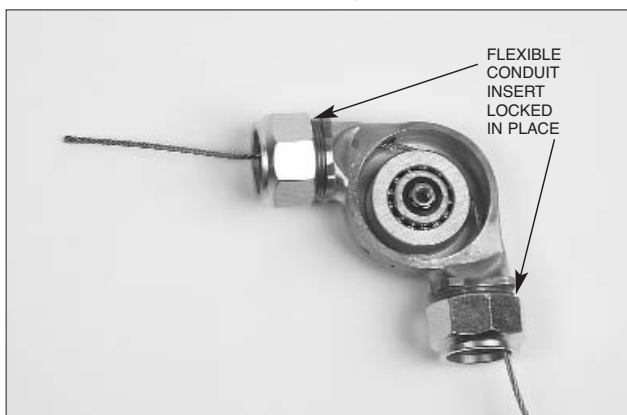

FIGURE 58
3. Tighten the nut to the connector conduit body, locking the flexible conduit insert in place. See Figure 58.